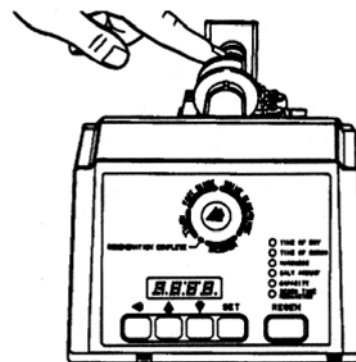
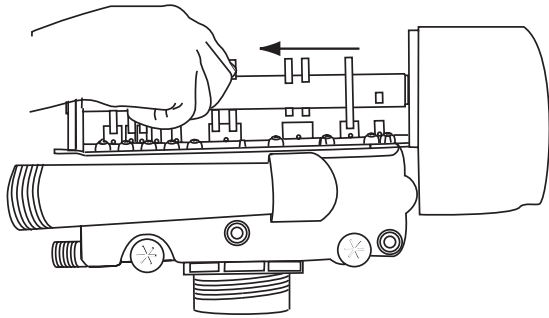

Figure 13
Figure 14
5. To remove the camshaft or to reinstall it, the arrow on the rear of the cam shaft must be pointing at the line on the rear "hoop" of the top plate. This occurs when the cycle indicator is rotated to the refill position. Press down on the back of the camshaft to disengage it from the rear "hoop" of the top plate, Figure 13. Slide the camshaft back to disengage it from the timer, Figure 14.